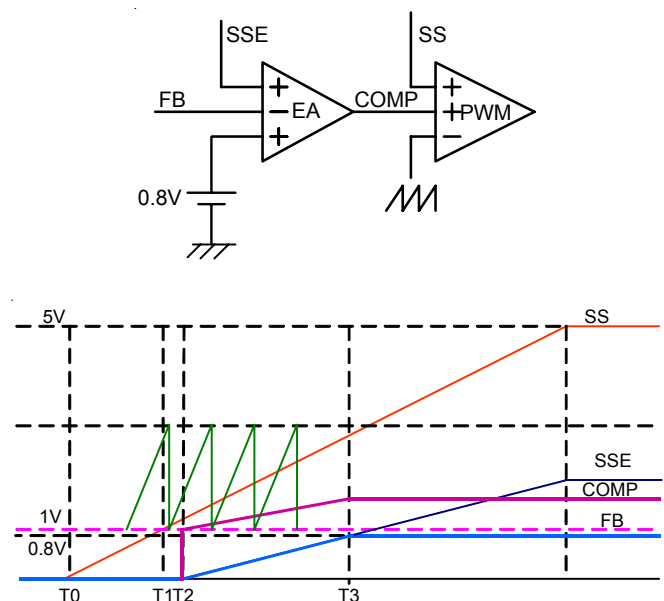

Figure 1. Timing diagram of softstart
The behavior of RT9232 Soft-Start can be simply described as shown as Figure.1 below; and the Soft-Start can be sliced to several time-frames with specific operation respectively.
The RT9232 initiates the softstart cycle as shown in Figure 1 when POR function is OK. An internal 10uA current source charges an external capacitor on SS pin (C_{SS}) to 5V. The softstart function produces an SSE signal that is equal to (SS-1.2V)/2. Error Amplifier (EA) and PWM comparator are triple-input devices. The non-inverting input